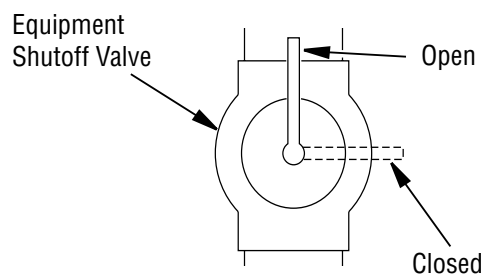

Figure 14 - Equipment Shutoff Valve
1. Close equipment shutoff valve (*see Figure 14*).